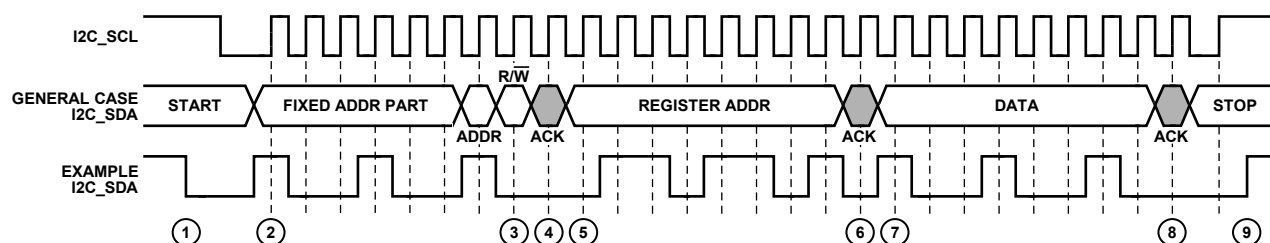

Figure 28. I²C Write Procedure
To write data to the AD8192 register set, an I²C master (such as a microcontroller) needs to send the appropriate control signals to the AD8192 slave device. The signals are controlled by the I²C master unless otherwise specified. For a diagram of the procedure, see Figure 28. The steps for a write procedure are as follows:
- Send the write indicator bit (0).
- Send a stop condition (while holding the I2C_SCL line high, pull the I2C_SDA line high) and release control of the bus to end the transaction (shown in Figure 28).